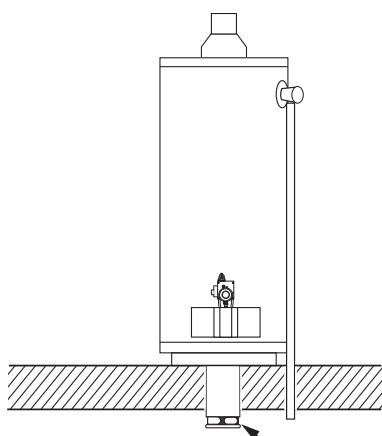

Figure 22: Wind Baffle
3. Remove the screws which attach the wind baffle to the existing metal air intake vent pipe underneath the home. Discard the wind baffle and screws. See Figure 22.